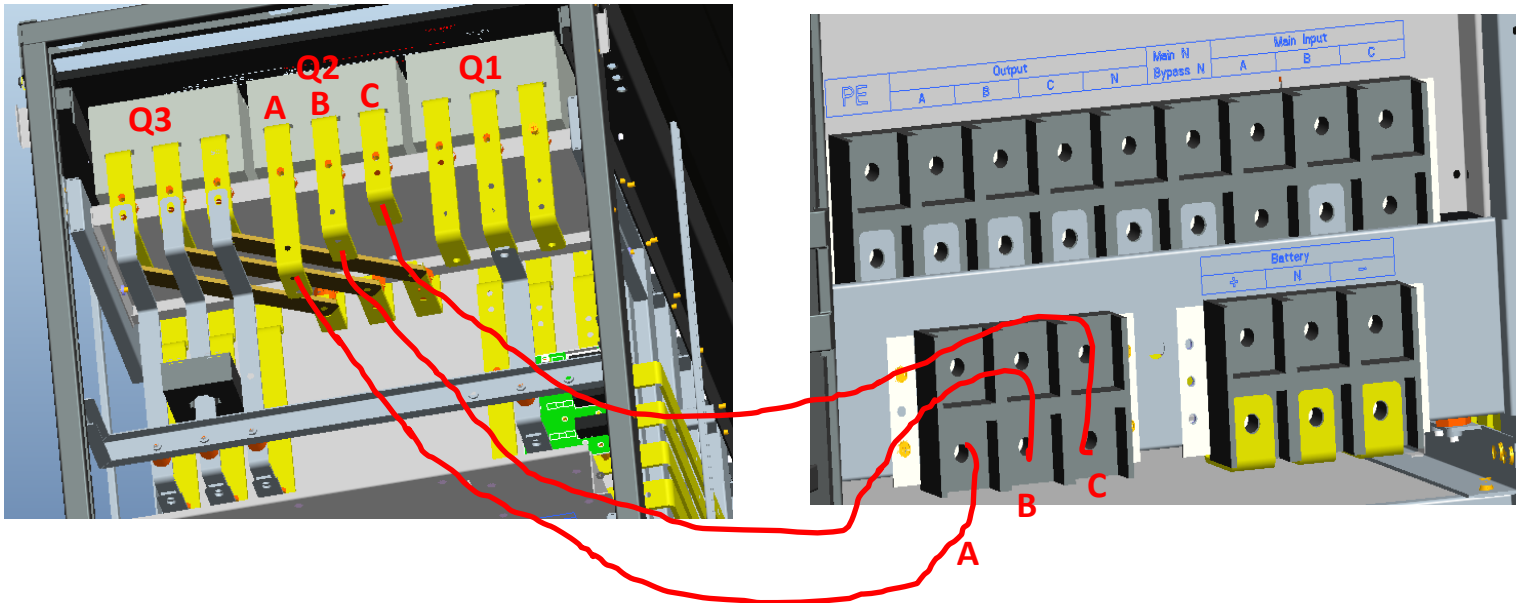
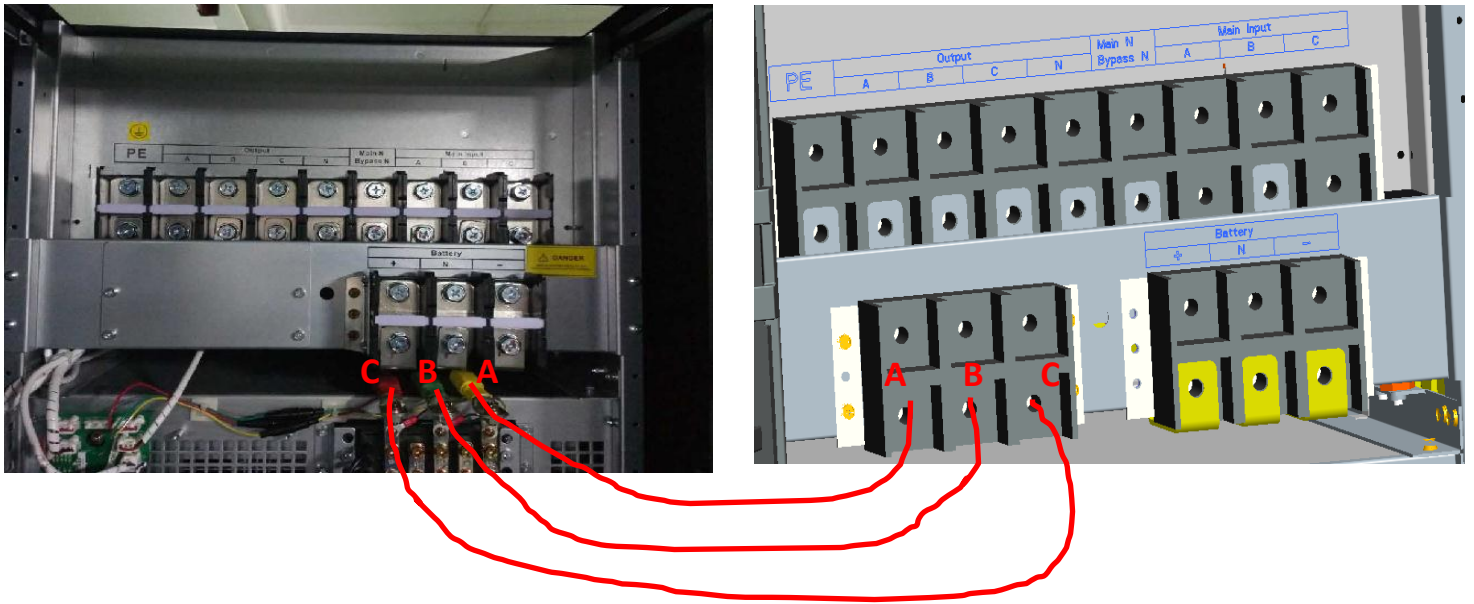

Figure 4 Connect new maintenance cables
Figure 6 New bypass module input cables to bypass terminals
- Remove and **leave** the old bypass module input black cables: W04 (Phase A), W05 (Phase B) and W06 (Phase C), as is shown in figure 4 and 5. Install the new bypass module input cables (Shorter than the old one) between bypass input copper bar and bypass module input, as is shown in figure 6.